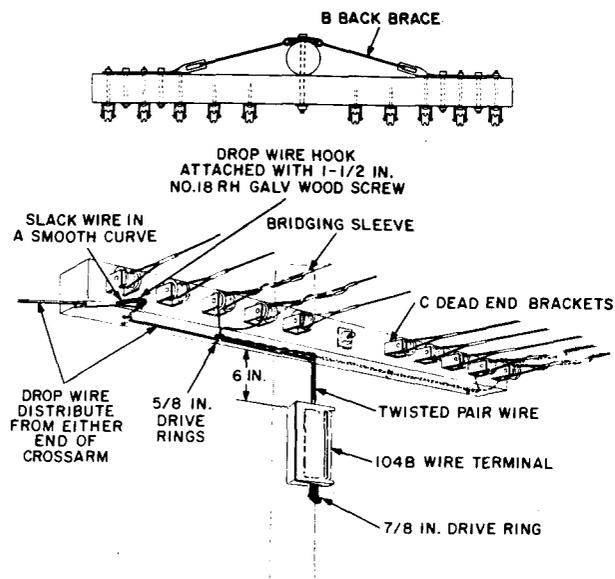

Fig. 4—For More Than Two Drops Use a 104B Wire Terminal Mounted on Pole
4.12 The wiring arrangement on DE crossarms equipped with back braces is shown in Fig. 4.